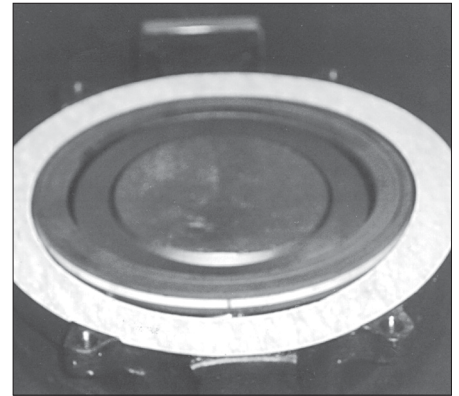

Figure 7 - Proper placement of seat retainer gasket.
1. Check to make sure the disc (2) is in the closed position against the body (1) disc stop.
2. Put the seat retainer gasket (22) on the valve body (1) gasket surface. (see Figure 7)
3. For lug style bodies, align the seat retainer ring gasket (22) holes with the holes in the body (see Figure 7).
4. Place the seat retainer ring (23) on top of the seat retainer gasket (22). For lug style valves, align the holes in the seat retainer ring (23) with the holes in the gasket (22) and the body (1).
5. Place the locating plates (33) and/or clips (35) for wafer style valve body.
6. Install and tighten the screws (34) for wafer valve and (24) for lug valve.